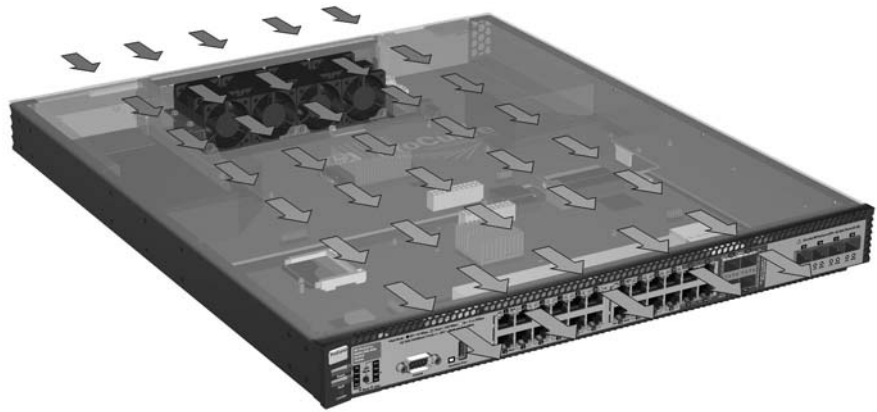

Figure 2-1. Default air flow direction of the Series 6600 Switches is from power to ports.
The direction of air flow can be reversed from the default direction shown in figure 2-1 by reversing the direction of the fans. See step 3 below, Reversing the air flow.
- In the front of the switch, leave at least 7.6 cm (3 inches) of space for the twisted-pair, fiber-optic cabling, and cooling. See Figure 2-1 for the air flow direction.
Make sure the air flow is not restricted in the front or back of the switch. See Figure 2-1 on page 2-4 for the air flow direction.